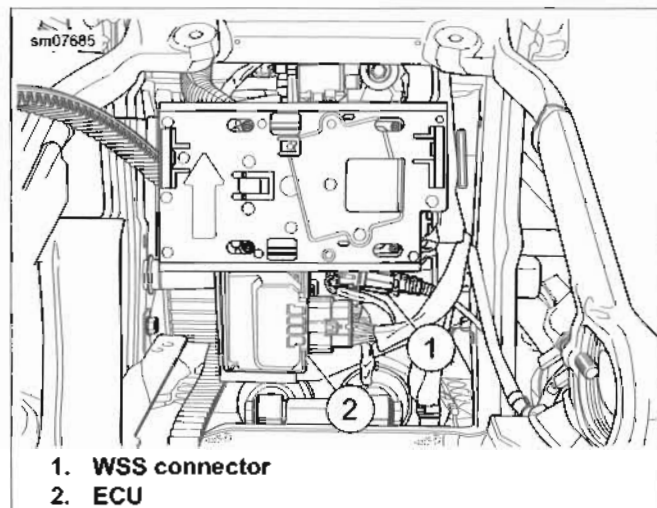

Figure 2-70. ECU
4. See Figure 2-70. Remove WSS connector (1).
6. Remove ECU (2) from panel.
1. See Figure 2-70. Install ECU (2).
3. Install WSS connector (1).